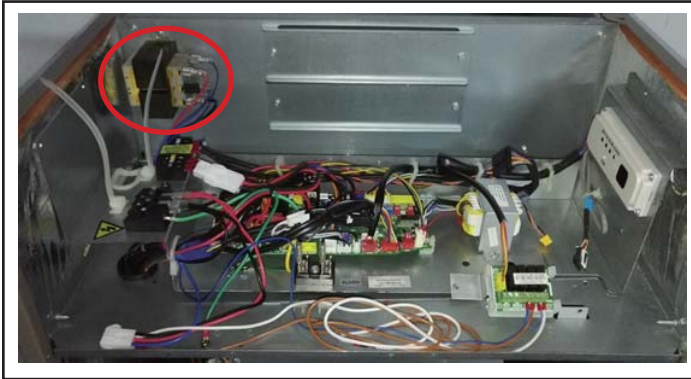

Figure 6. Secure Transformer
- Position the transformer on the back of the control box and secure with the two long screws. See figure 6.